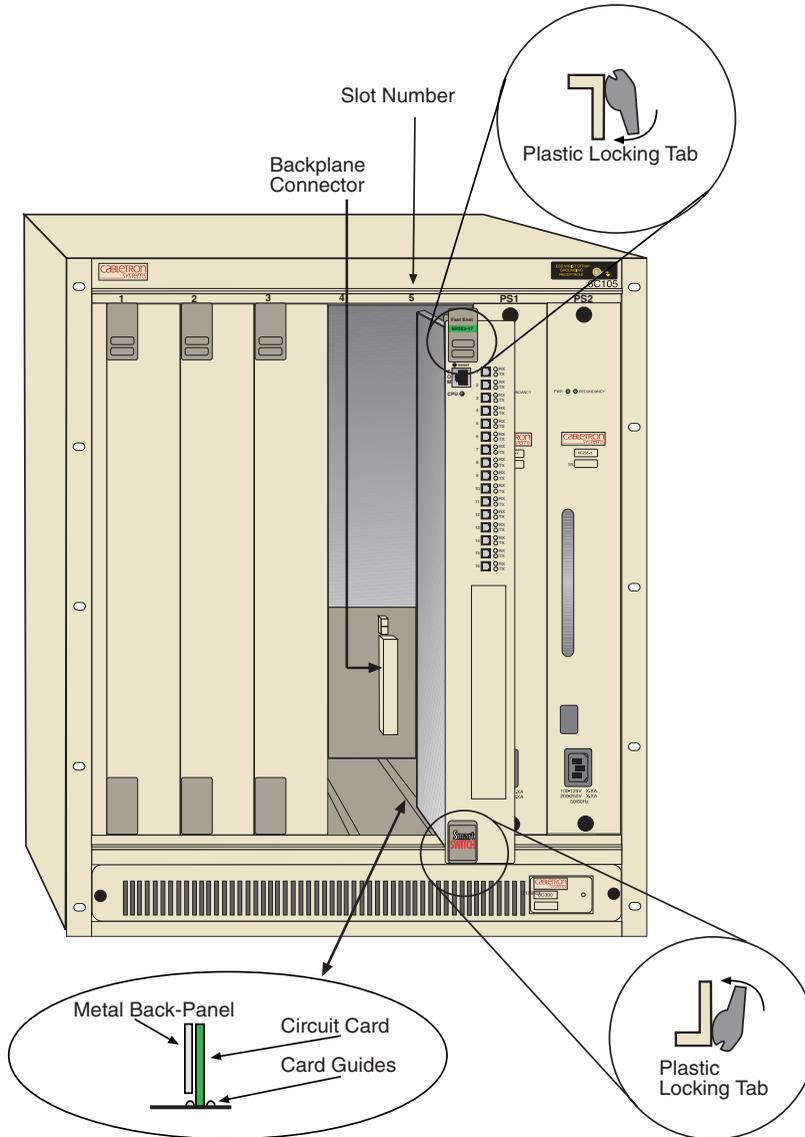

Figure 3-1 Installing an Interface Module
The SmartSwitch modules can be installed in any of the 5 slots that are available. To install a module, refer to Figure 3-1 and proceed as follows:
Ensure that the top plastic locking tab lines up with the desired slot number located on the front panel of the chassis. Refer to Figure 3-1.
6. Locate the slot guides that line up with the number of the slot in which the module will be installed. Install the module in the chassis by aligning the module circuit card between the upper and lower metal rail guides of the desired slot, sliding it into the chassis, and locking down the top and bottom plastic locking tabs, as shown in Figure 3-1. Take care that the module slides in straight and properly engages the backplane connectors.